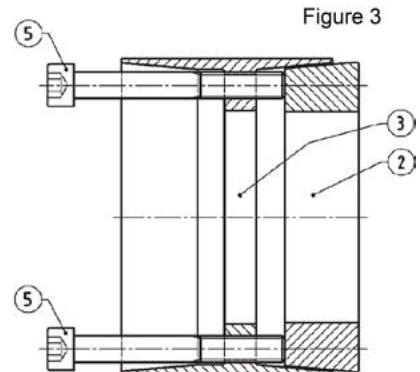

Figure 3
4. Transfer locking screws used for dismounting of collar Item 1 into all push-off threads in center collar Item 3 (see Figure 3). Release collar Item 2 by repeating procedures outlined in Step 3.